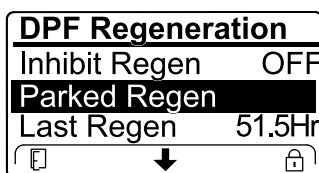

Figure 47
- If the engine computer requests a recovery regeneration or is processing a recovery regeneration and you scroll down to the PARKED REGEN option, parked regeneration locks and the lock icon (Figure 47) appears in the lower right corner of the InfoCenter.